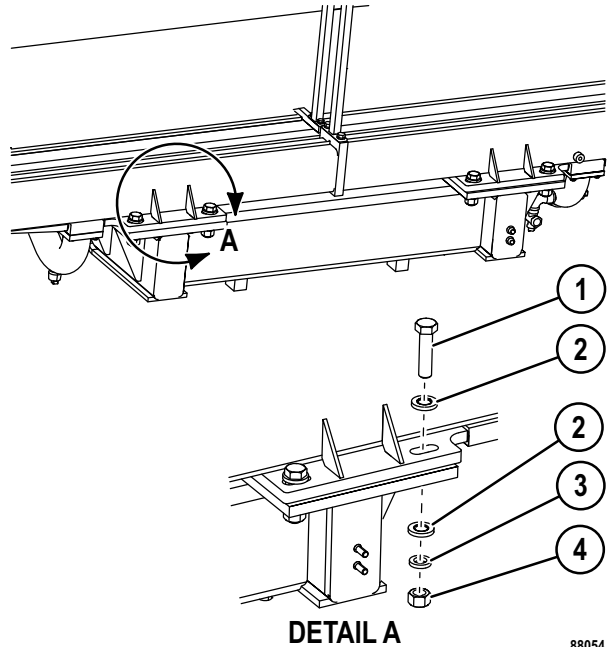

FIGURE 50-53. RADIATOR MOUNTING HARDWARE REMOVAL
- 19. Remove capscrews (1, Figure 50-53), hardened flat washers (2), lockwashers (3) and nuts (4) that secure the radiator and to the power module subframe.